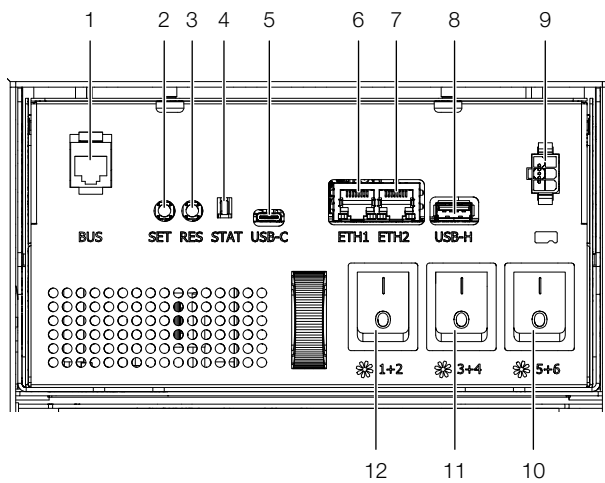

Fig. 102: Climate controller
In order to switch the device to normal operation (control operation), briefly press the "SET" button (fig. 102, item 10) once.
Up to 16 additional standard sensors may be connected to the climate controller to monitor additional physical parameters of the Liquid Cooling Package. To this end, the sensors are connected to the first CAN bus connection on the rear of the device (fig. 102, item 1) and configured via the Web interface.
1. By briefly pressing the "SET" button on the climate controller (fig. 102, item 2). This confirms all alarm messages simultaneously.